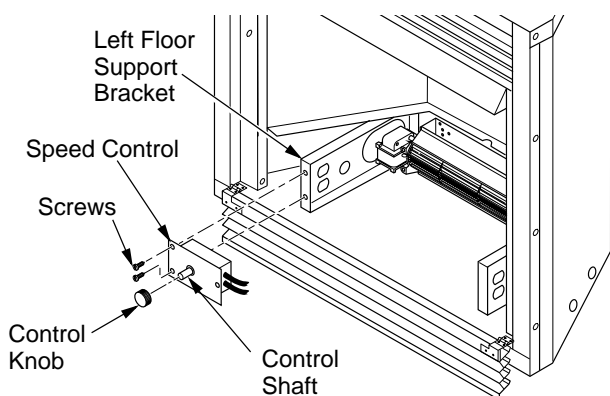

Figure 19 - Attaching Speed Control to Firebox
9. Mount the speed control on the front leg of the left floor support bracket using 2 screws provided (see Figure 19). *Note:* Some remote ready fireplace models have the gas control located near the left floor support bracket. For these models, mount the blower speed control onto the right floor support bracket.